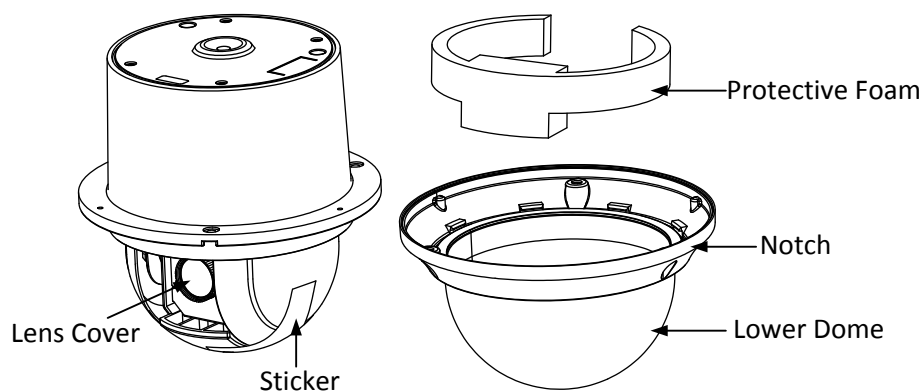

Figure 3-24 Disassemble the Speed Dome
- 3) Remove the protective lens cover, foam and sticker from the dome drive as shown in Figure 3-24.